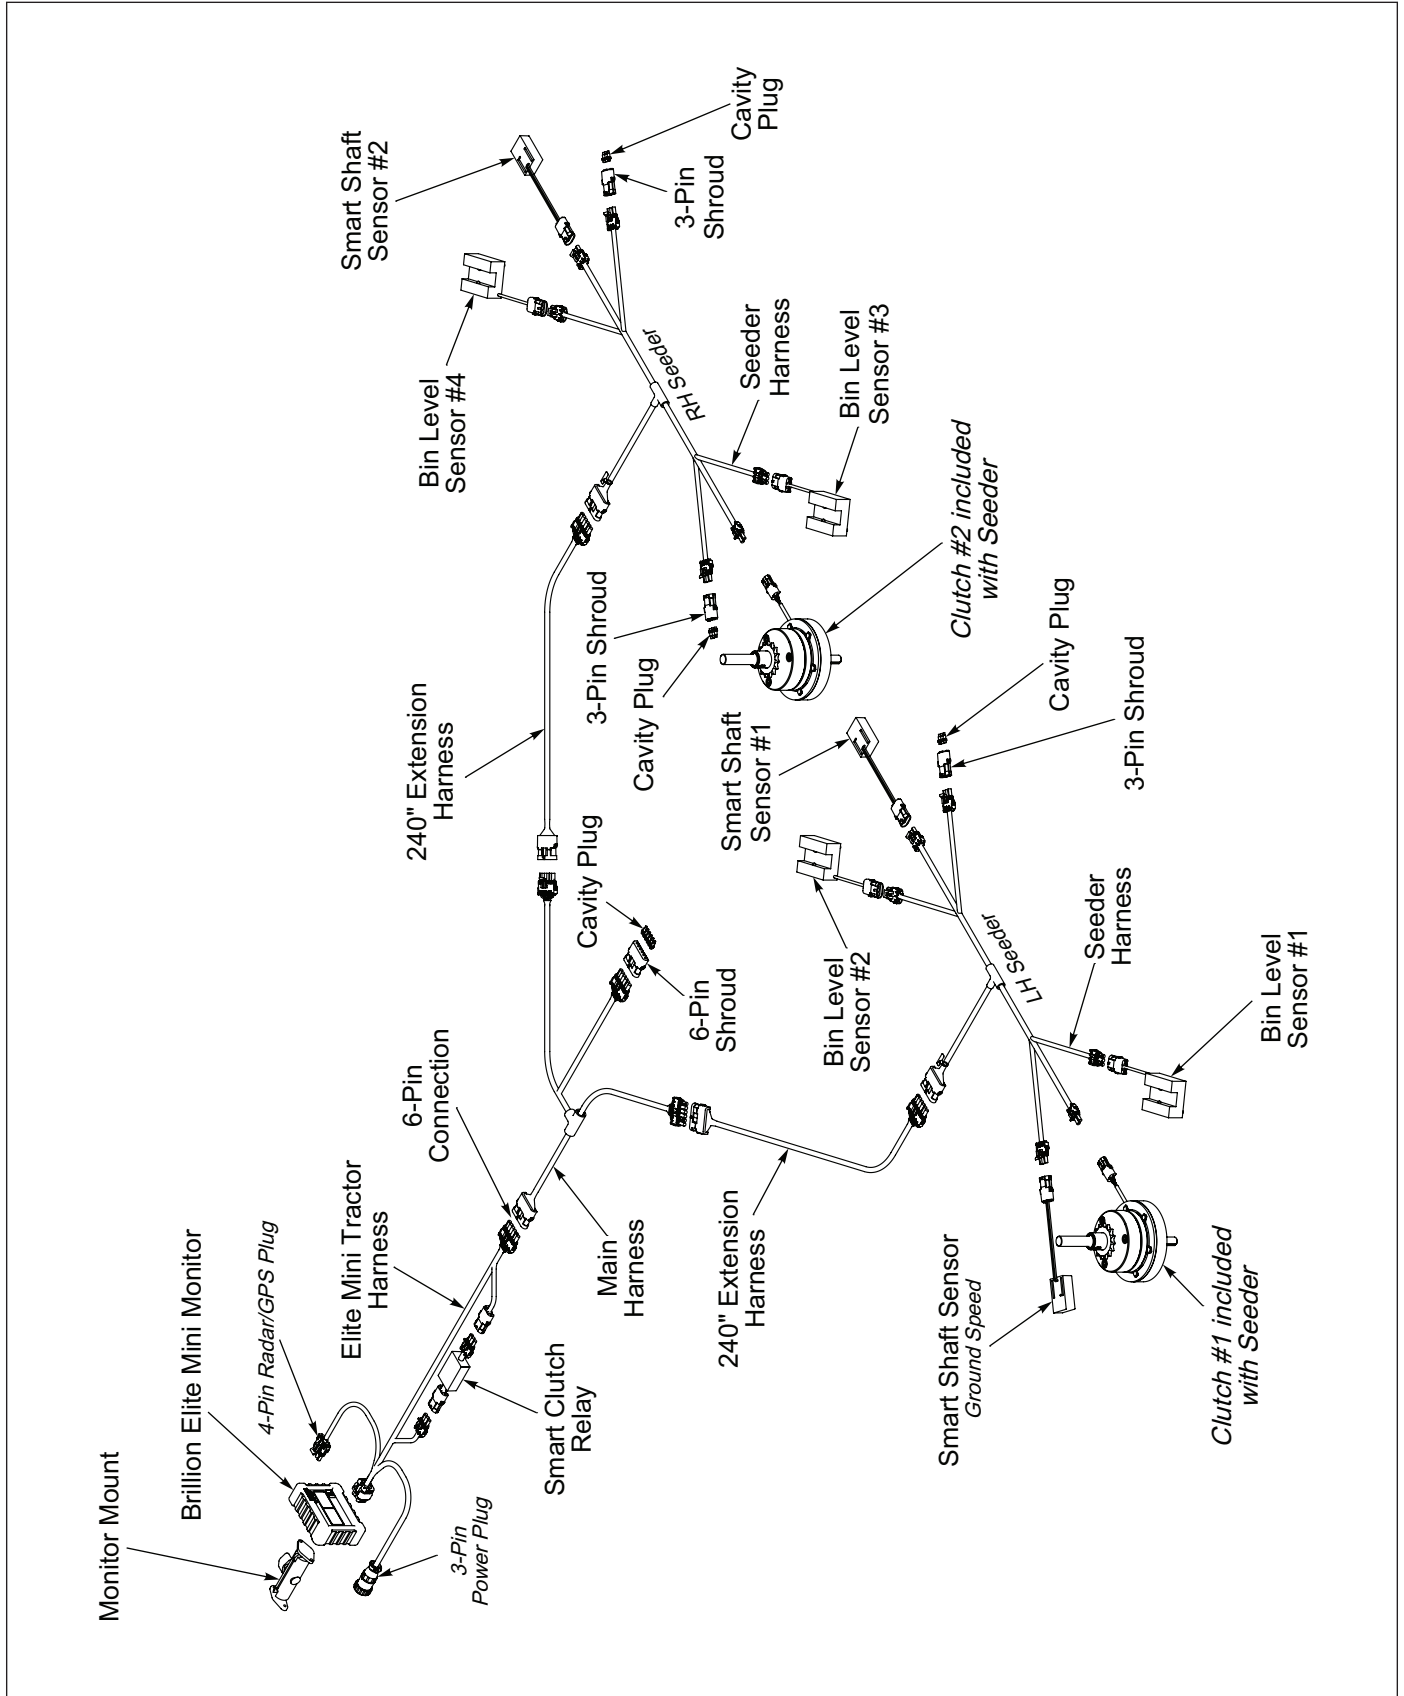

Figure 2-5: Brillion Elite Mini Monitor - Single Seed Box Sensor Schematic
Refer to Brillion Elite Mini Monitor Single Box Schematic. See Figure 2-5.
7. Join the Brillion Elite Mini Monitor to the Folding Seeder. Connect the 6-Pin connection of Elite Mini Tractor Harness and the Seeder Main Harness at the front of the Folding Seeder Hitch. **See Figure 2-5.**